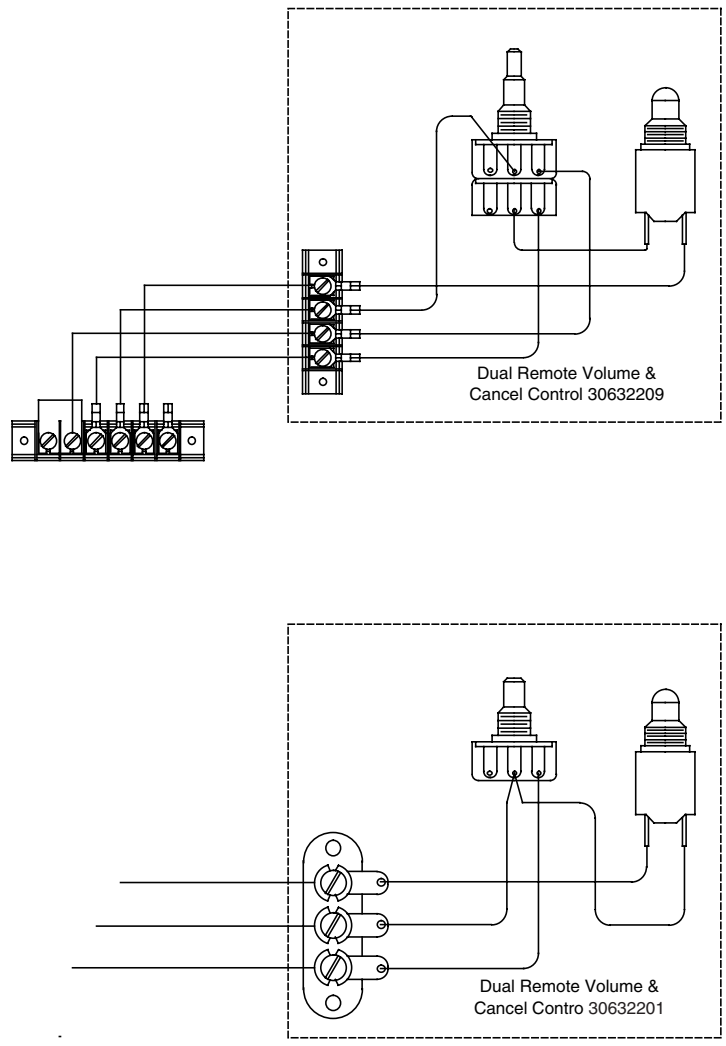

Figure 2-8A. Remote Volume Control Diagrams
- Set terminal block jumper as shown in Figure 2-8A Remote Volume & Cancel Control 30632201.
- Set terminal block jumper as shown in Figure 2-8A Dual Remote Volume & Cancel Control 30632209.